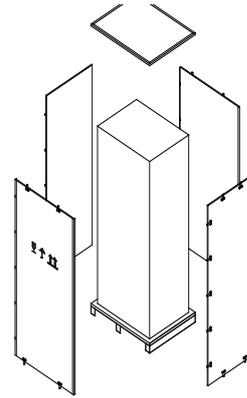

Fig. 12. Disassemble the case
3. .Open the top plate of the steel-edged wooden case with slotted awl and pier, followed by side boards (see Fig.12).